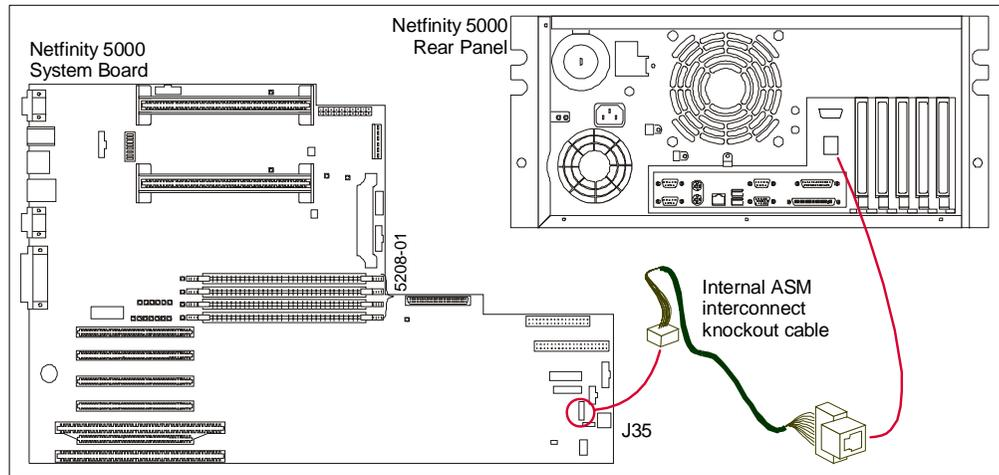

Figure 55. Netfinity 5000
- On the Netfinity 5000, connect the cable from the J35 connector on the system board to the knockout on the server casing (see Figure 55).